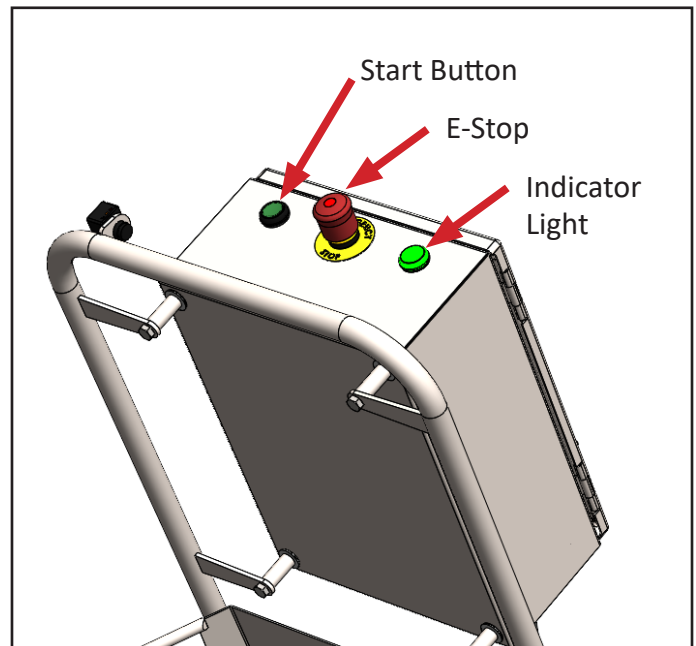

Fig. 7.1: E-stop, start button, and power indicator light
3. Press the green Start button to power on - the green indicator light will illuminate when the unit has power [Figure 7.1].